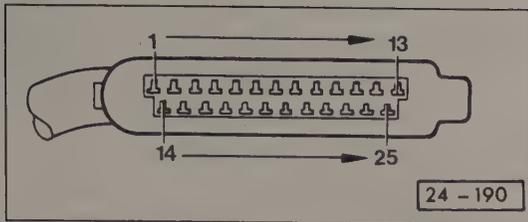

Fig. 5-8. Digifant control unit harness connector terminal identification.
2. Using an ohmmeter or a multimeter set to the 20kΩ scale, check continuity between terminals 2 and 13 of the Digifant control unit harness connector. See Fig. 5-8. There should be no continuity. If there is, there is a short to ground in the oxygen sensor wiring.